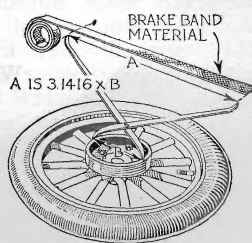

Fig. 5. A handy caliper for measuring a brake band lining saves material, time and patience
**B**RAKE band lining is expensive material, and the motorist tries to figure his requirements as closely as possible so as to avoid both the cost of buying too much and the loss which follows the cutting of a piece that is too short. It is easy to build yourself a double ended caliper as shown in Fig. 5, that will tell you just the right length of brake lining needed to fit any particular size of brake band. The distance from hinge pin to the short end should be just seven inches if the
long end measures twenty-two inches from the hinge pin. This caliper gives a length between the long ends that will equal the circumference of a circle if the short end is set to the diameter of the circle as shown in Fig. 5.
**G**EORGE E. LUERS, of Washington, D.C., wins the \$10 prize this month for his method of measuring brake band lining, shown in Fig. 5. Each month **POPULAR SCIENCE MONTHLY** awards \$10 in addition to regular space rates for the best idea for motorists. Other published contributions will be paid for at usual rates.